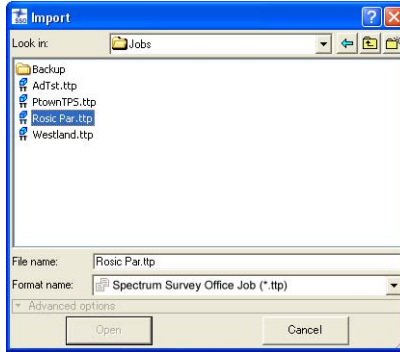

Figure 3-15. Import Spectrum Survey Office Job
1. To import a Spectrum Survey Office job on a computer into Spectrum Survey Office, with a job open, either click **Job ▶ Import**, press **F3**, or click the **Import** button on the Toolbar (Figure 3-15).
4. Click **Open** to import the file (Figure 3-15).